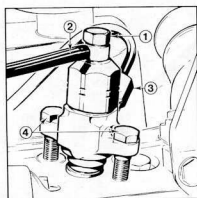

Fig. 22 Removal of Injector
- Remove the bolt on top of the injector securing the leak-off pipe to the injector (Fig. 22).